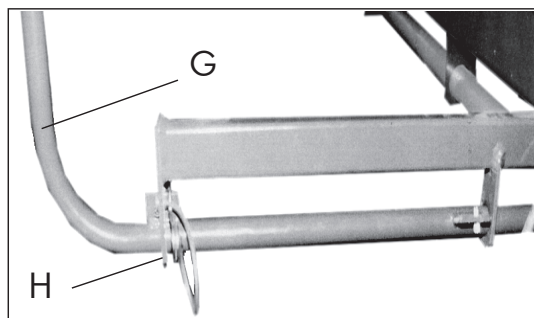

Fig. 3-19
6. For road travel and parking position, pull the guard yoke (G) outwards, lower it and lock it with spring pin (H) (fig. 3-19).